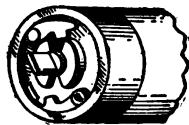

FIG. 250
**276. Shade Roller and Cream Separator.** In shade rollers the centrifugal tendency of the two loose-fitting catches (Fig. 250), as the shade is allowed to roll up rapidly, keeps the one on top from dropping into the slot. The slot does not rotate, since it is a part of the roller that fits into the bracket which supports the shade. If, however, the shade is allowed to roll up slowly, the catch drops into the slot and thus prevents further rolling.